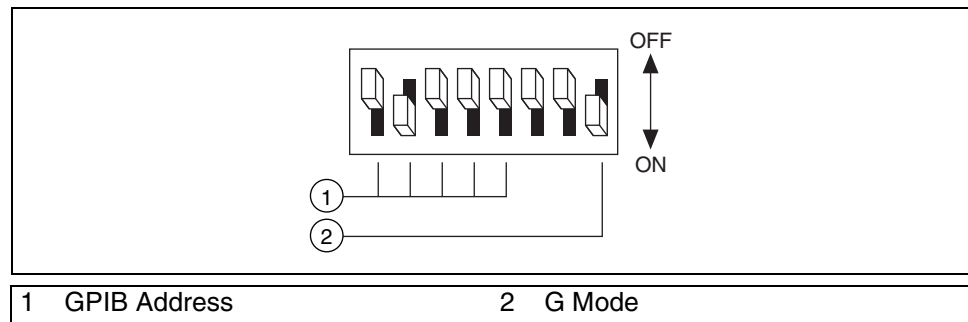

Figure 9-10. GPIB Configuration Settings for the NI Instrument Simulator
- Set the left bank of switches on the side of the box to match Figure 9-10.